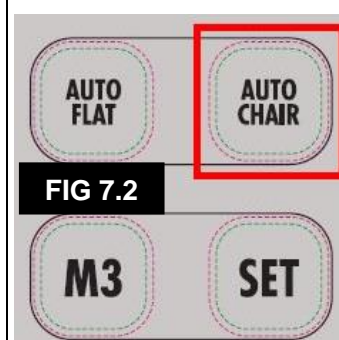

FIG 7.2
**3.7.2 Auto Chair,** position function – this chair or seated position has been pre-set for your convenience. To operate, *press & hold* the button on the handset labelled 'Auto Chair' until all actuators/functions have stopped moving and the desired chair position has been reached. **See Figure 7.2**